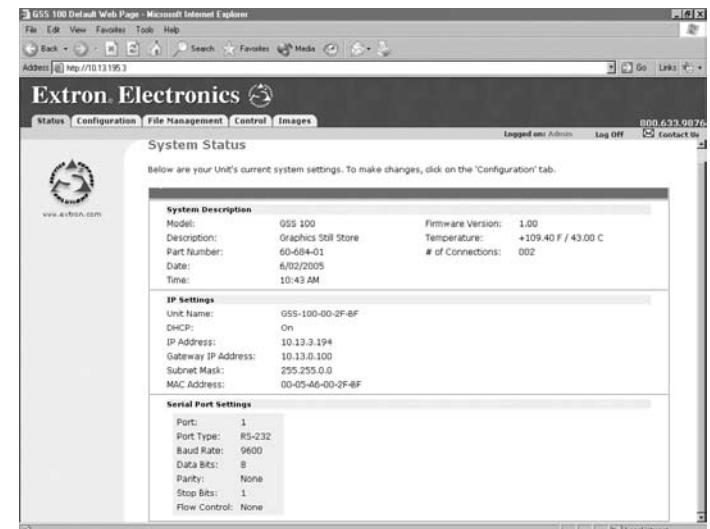

Figure 5-3 — System Status page
- c. If neither of the above conditions is true, the GSS outputs the factory-installed default startup page, "nortxe_index.html" (figure 5-3), also known as the System Status page.
The System Status page (figure 5-3) provides an overall view of the status of the GSS, including various IP addresses, and the status of the RS-232 port. The System Status page is the default page that the GSS downloads when you connect to the GSS.